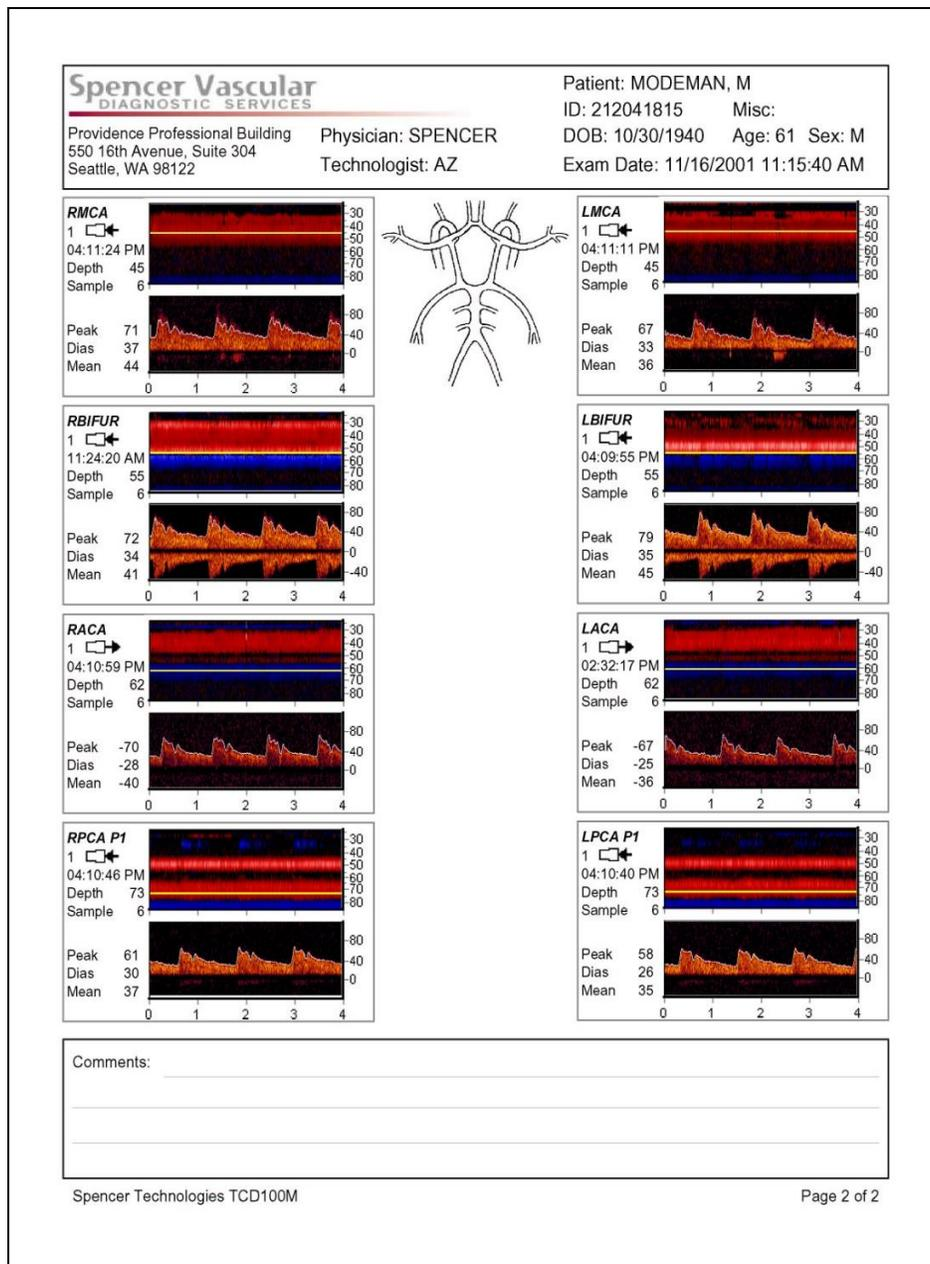

Figure 12 – Sample of a Neurovascular Diagnostic Report
- **Neurovascular diagnostic report** – designed for general neurovascular exams. See Fig 12, page 37.